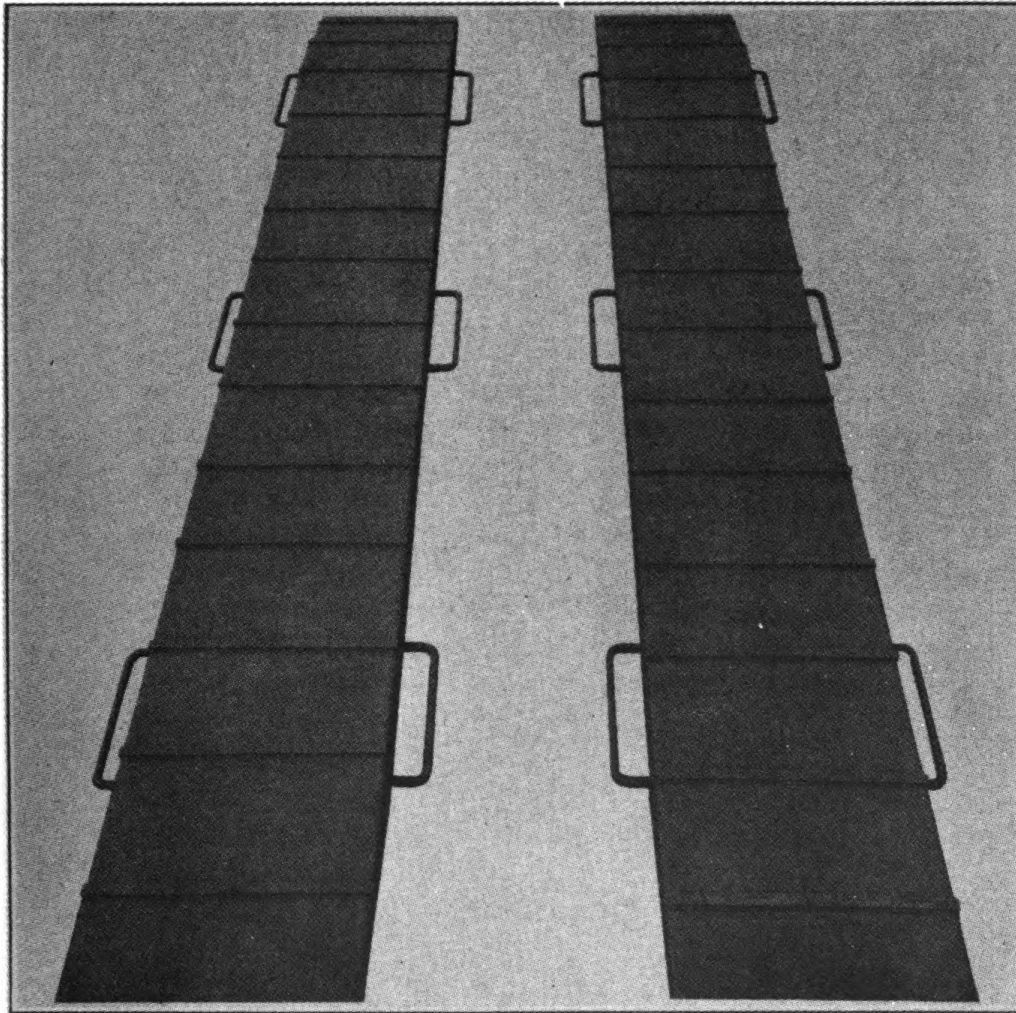

FIGURE 6. EQUIPMENT
3. **EQUIPMENT:**—The equipment issued with this vehicle is illustrated in Figure 6 and contains the items listed below: